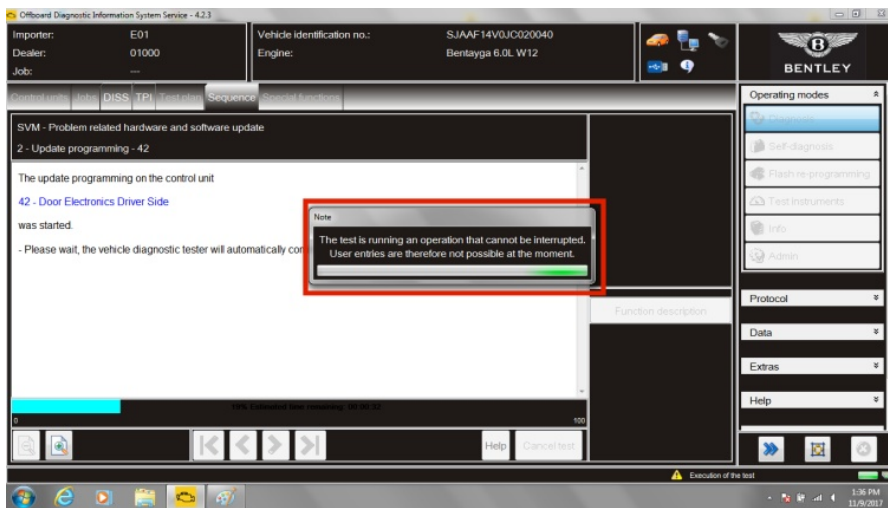

Figure 5
- During the update a progress bar will be displayed. Note: the actual software load for all four control units will take approximately 30 minutes the two rear control units taking the majority of this time (see Figure 5)